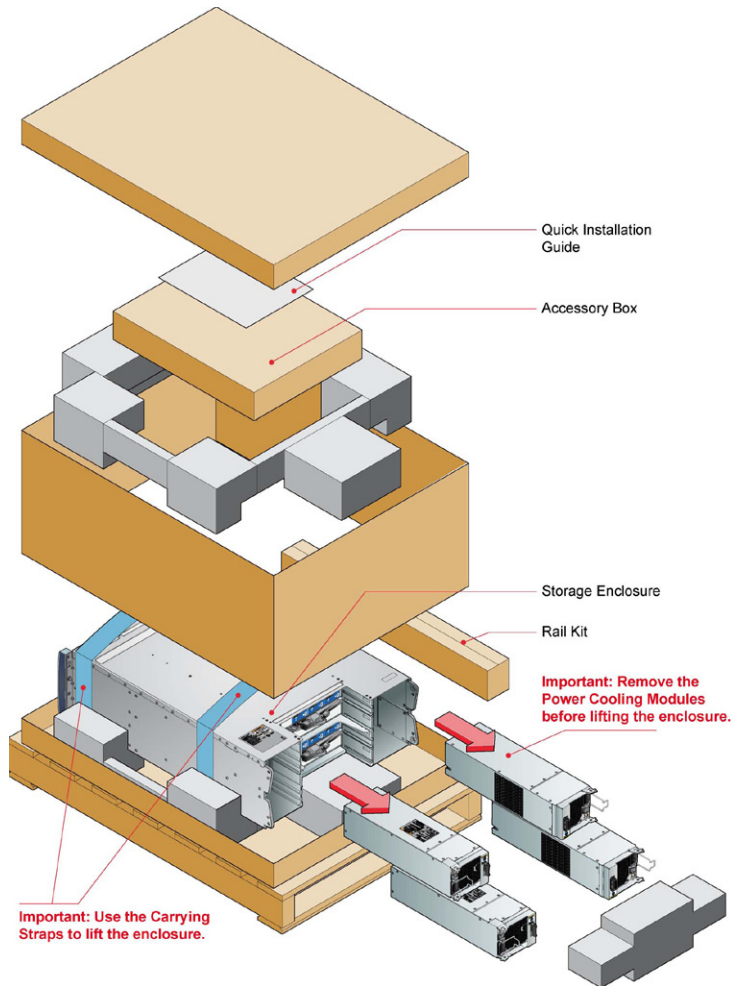

Figure 1 - Unpacking the Storage System
2. Unpack the system. See Figure 1.